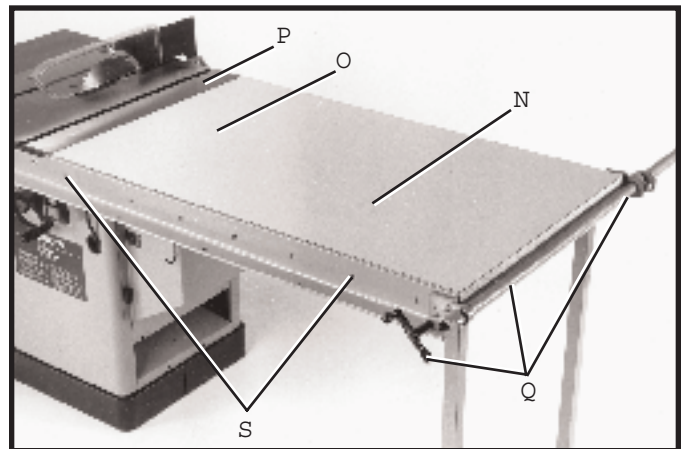
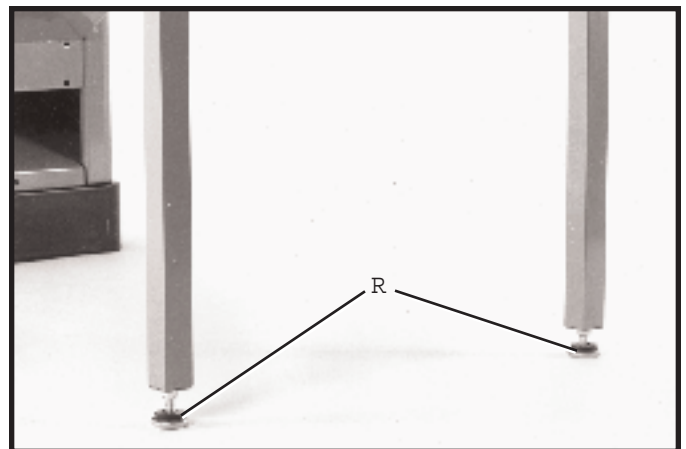

Fig. 14
Fig. 15
12. Place table assembly (N) Fig. 14, in position between the two rails, as shown. Make sure end of table (O) is flush against saw table (P) and using a bar clamp (Q) snug up end of rails to hold table in position. Using a straight edge make sure table (O) is in the same plane and level with saw table (P). Lightly tap table up or down and adjust leveling screws (R) Fig. 15, in bottom of legs to accomplish this. When you are certain table (O) Fig. 14, is level and in the same plane with saw table (P), tighten bar clamp (Q) to hold everything in position. Then drill 1/4 through holes through the front and rear of the extension table using the holes (S) provided in rails as template. NOTE: Number of holes (S) in the front and rear rails will vary depending on the length of the rails you purchased.